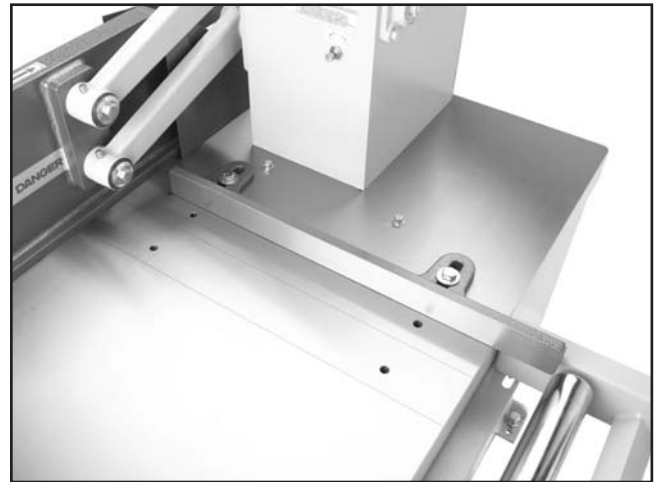

Figure 15. Fence mounted to table.
3. Attach the fence to the table with the two hex bolts, as shown in **Figure 15**, but do not tighten the bolts.